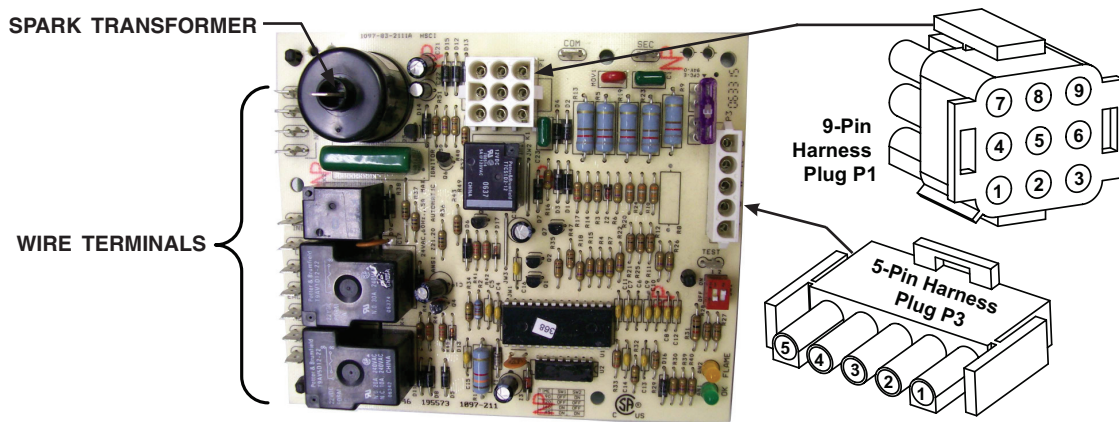

Figure 1. Replacement Ignition Controller
- These instructions are for replacing an obsolete ignition controller (RAM #3MC4-06, serial number code 76 or J/C #G822KCC-5401D, serial number code 77) with an ignition controller (see **Figure 1**) replacement kit (PN 258251).
- a. Position drill template (5), with painted side facing up, over mounting holes for ignition controller removed in step 2. Justify holes for replacement controller toward bottom of panel.
- c. Position DSI control board (1) so that spark transformer is located nearest to spark electrode on burner. Snap control board into holes.
- b. Connect one end of replacement ignition cable (6) to spark electrode on burner and other end to spark transformer (see Figure 1) on replacement DSI control board (1).
- a. Connect P3 5-pin wire assembly (3) to thermostat terminal strip as shown in Figure 1.
- b. Connect P1 9-pin wire assembly (2) as shown in Figure 1. As necessary, shorten wires and install replacement terminals (8).
- c. Connect existing wires to DSI control board (1) wire terminals. If terminal on line voltage wire is 3/16 inch, cut off terminal, strip wire, and install quick connect terminal (7). Connect line voltage wire to terminal L1.
- d. Connect one end of 24-inch red wire assembly (4) to rollout switch located on burner box top. Connect other end to high limit switch wire lead using wire nut (9).
- e. Install cable ties (10) as necessary for routing and for excess wire length.